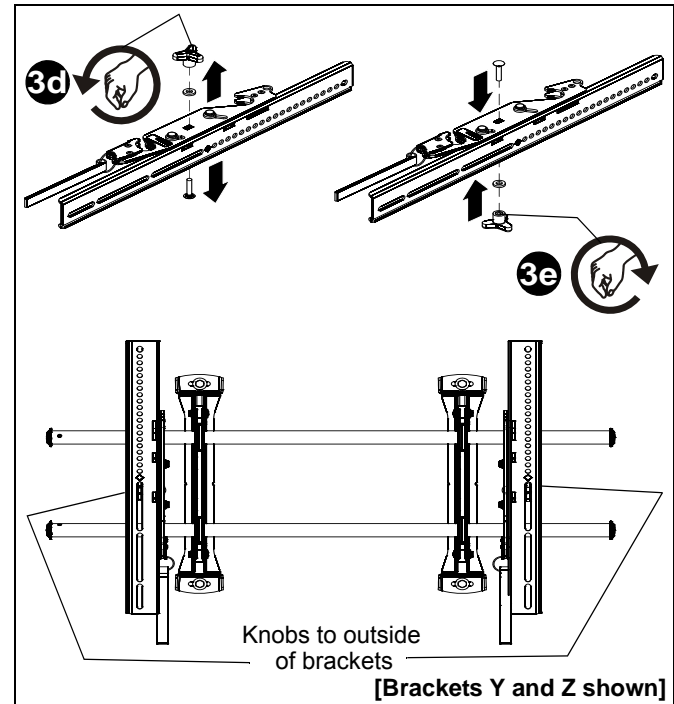

Figure 6
3. If necessary, the tilt interface bracket knobs may be switched to allow the interface brackets (Y and Z) to be reversed. (See Figure 6)